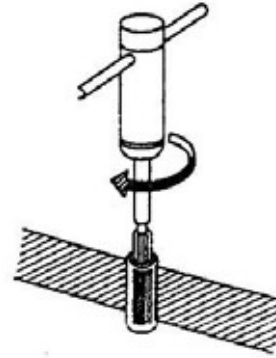

Figure 4-19: Valve Guide Reamer (typical)
6. See Figure 4-19. Verify the width of the finished seat is within specification.